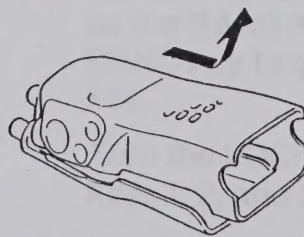

Fig. 3
- 5 Open the front panel from the PTT switch side, being careful of the internal wiring and water resistance rubber attached LEDs. (Fig. 3)